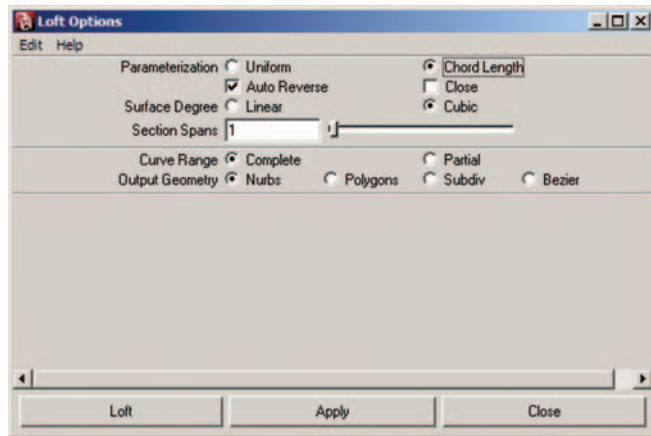

FIGURE 2-36 Loft options.
14. With the curves still highlighted, click Surfaces>Loft>. Set the options according to Figure 2-36 and press Loft. Chord length parameterization creates better curvature on new surfaces. Auto reverse will help prevent twisting of the new surface that can arise if any of the curves are running in different directions. Cubic surface degree results in a smooth surface, whereas linear gives a faceted appearance. The section spans change the number of sections in each span of the surface. Keeping this set to 1 allows you to work with smaller amounts of detail. Always start small and work in the extra detail later.